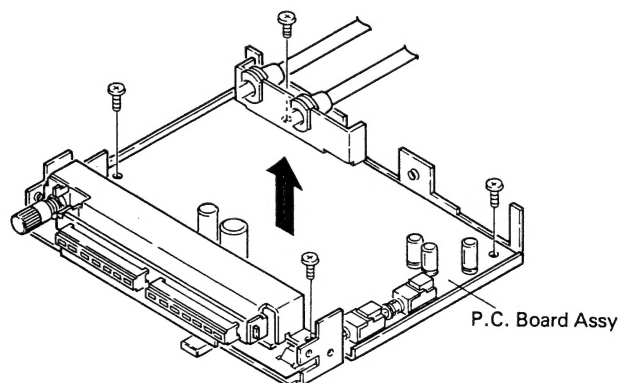

Fig. 6
1. Remove the four screws shown, then remove the P.C. Board assembly in the direction indicated by the arrow. (Fig. 6)